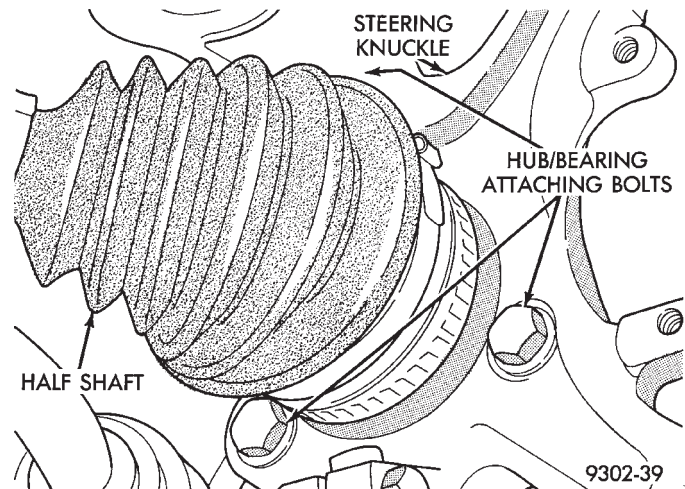

Fig. 4 Hub And Bearing Assembly Retaining Bolts
(6) Remove the 3 steering knuckle to hub and bearing assembly attaching bolts (Fig. 4).